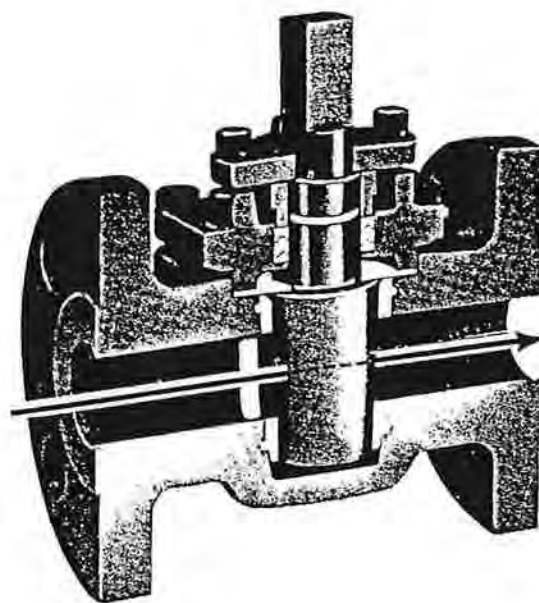

Fig. 7-9. Plug valve
7.30 A PLUG valve, (also called a COCK, or PETCOCK) is something like a ball valve, in that the blocking element in the body of the valve has an open channel through it. See Fig. 7-9. However, the element is either a tapered or nontapered cylindrical plug, rather than a ball. The plug fits into the body of the valve, and offers either its open port or its solid side to the fluid; a quarter turn is all that is necessary to change from one position to the other. The shape of the port may be rectangular or round. Some ports are diamond shaped. These are used in throttling applications in such services as balancing air conditioning and heating systems.